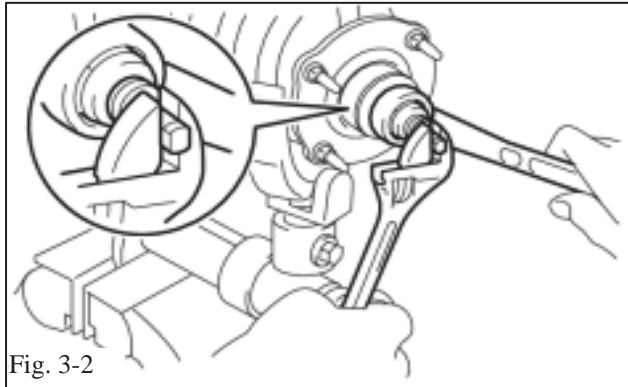

Fig. 3-2
- (b) Remove the front support to front shock absorber nut and discard. (Fig. 3-2)